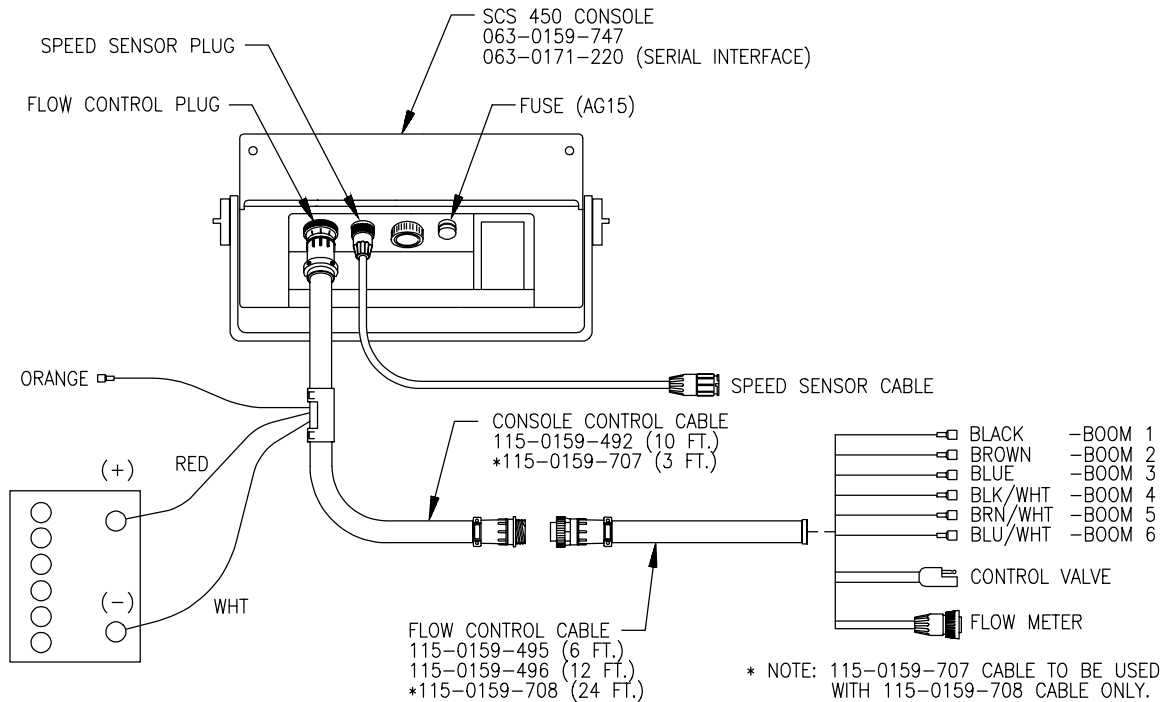

FIGURE 5
- 2) Connect the Console Control Cable to the plug in the back of the Console. (Reference Figure 5). Route the Console Control Cable out of the vehicle cab and terminate. (Flow Meter extension cables are available from your Dealer).